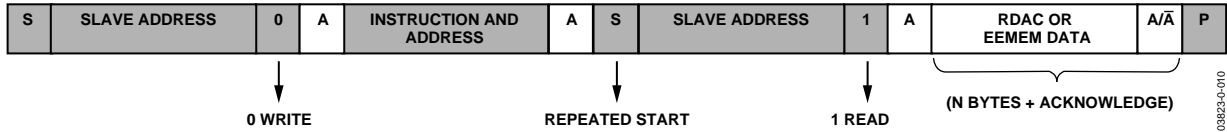
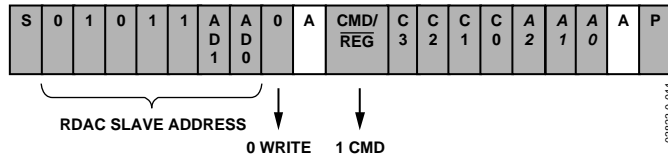
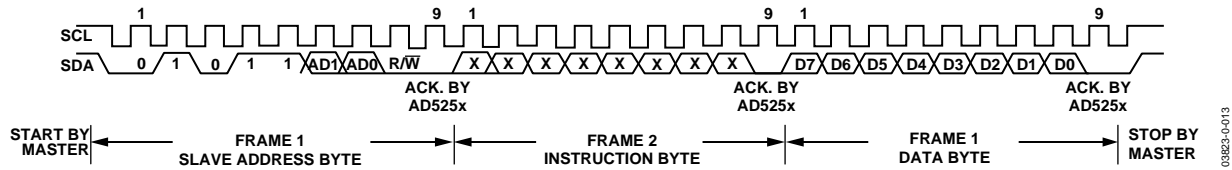
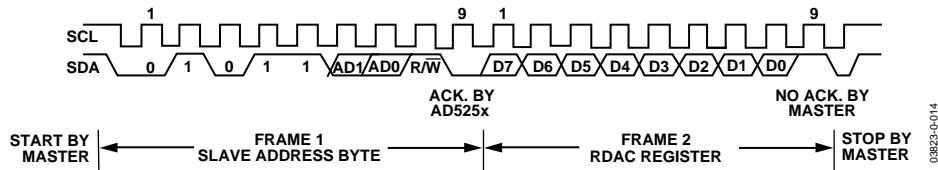

Figure 30. RDAC or EEMEM Random Read
Figure 31. RDAC Quick Command Write (Dummy Write)
Figure 33. General I2C Write Pattern
Figure 34. General I2C Read Pattern
Figure 30 illustrates a random RDAC or EEMEM read operation. This operation allows users to specify which RDAC or EEMEM register is read by issuing a dummy write command to change the RDAC address pointer and then proceeding with the RDAC read operation at the new address location.
The AD5251/AD5252 feature 12 quick commands that facilitate easy manipulation of RDAC wiper settings and provide RDAC-to-EEMEM storing and restoring functions. The command format is shown in Figure 31, and the command descriptions are shown in Table 9.
The first byte of the AD5251/AD5252 is a slave address byte (see Figure 33 and Figure 34). It has a 7-bit slave address and an R/W bit. The 5 MSB of the slave address is 01011, and the next 2 LSB is determined by the states of the AD1 and AD0 pins. AD1 and AD0 allow the user to place up to four AD5251/AD5252 devices on one bus.
AD5251/AD5252 can be controlled via an I2C-compatible serial bus and are connected to this bus as slave devices. The 2-wire I2C serial bus protocol (see Figure 33 and Figure 34) follows:
1. The master initiates a data transfer by establishing a start condition, such that SDA goes from high to low while SCL is high (see Figure 33). The following byte is the slave address byte, which consists of the 5 MSB of a slave address defined as 01011. The next two bits are AD1 and AD0, I2C device address bits. Depending on the states of their AD1 and AD0 bits, four AD5251/AD5252 devices can be addressed on the same bus. The last LSB, the R/W bit, determines whether data is read from or written to the slave device. The slave whose address corresponds to the transmitted address responds by pulling the SDA line low during the ninth clock pulse (this is called an acknowledge bit). At this stage, all other devices on the bus remain idle while the selected device waits for data to be written to or read from its serial register.
the addresses of the EEMEM and RDAC registers (see Figure 27 and Figure 28). When MSB = 1 or when the device is in CMD mode, the four bits following the MSB are C3 to C1, which correspond to 12 predefined EEMEM controls and quick commands; there are also four factory-reserved commands. The 3 LSB—A2, A1, and A0—are addresses, but only 001 and 011 are used for RDAC1 and RDAC3, respectively (see Figure 31). After acknowledging the instruction byte, the last byte in the write mode is the data byte. Data is transmitted over the serial bus in sequences of nine clock pulses (eight data bits followed by an acknowledge bit). The transitions on the SDA line must occur during the low period of SCL and remain stable during the high period of SCL (see Figure 33).
3. In current read mode, the RDAC0 data byte immediately follows the acknowledgment of the slave address byte. After an acknowledgement, RDAC1 follows, then RDAC2, and so on. (There is a slight difference in write mode, where the last eight data bits representing RDAC3 data are followed by a no acknowledge bit.) Similarly, the transitions on the SDA line must occur during the low period of SCL and remain stable during the high period of SCL (see Figure 34). Another reading method, random read method, is shown in Figure 30.
4. When all data bits have been read or written, a stop condition is established by the master. A stop condition is defined as a low-to-high transition on the SDA line that occurs while SCL is high. In write mode, the master pulls the SDA line high during the 10th clock pulse to establish a stop condition (see Figure 33). In read mode, the master issues a no acknowledge for the ninth clock pulse, that is, the SDA line remains high. The master brings the SDA line low before the 10th clock pulse and then brings the SDA line high to establish a stop condition (see Figure 34).